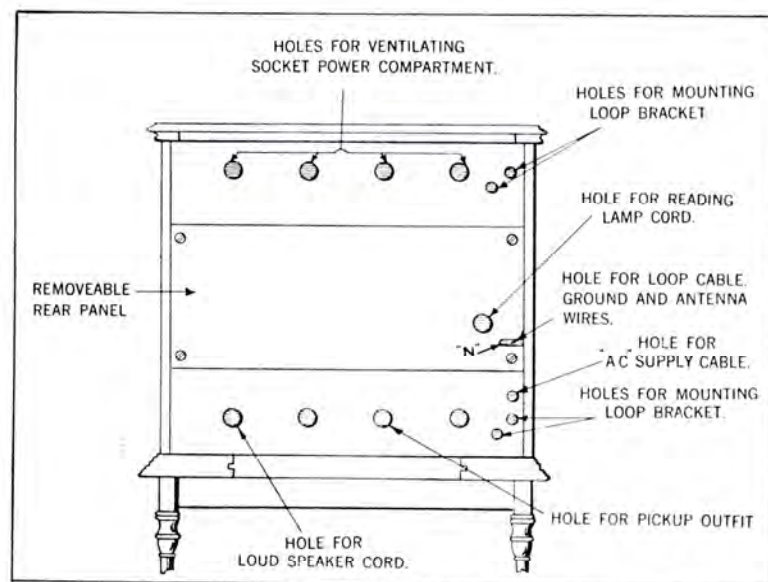

Fig. 12—Rear View of Cabinet of No. 734 Receiver
7. Replace the removable rear panel. As you do so, bring Antenna and Ground wires or Loop Cable and Ground Wire into Cabinet through slot "N" in removable panel. (Fig. 12.) Connect to binding posts on chassis. If Loop is used,
10. Push chassis back into its compartment in Cabinet. Connect A. C. supply cord attachment plug to house lighting socket or outlet. Insert Loud Speaker plug and Phonograph Pick-up Outfit plug (if used) in respective jacks at rear of chassis (Fig. 12.) Turn On-Off Switch to "ON."
14. A convenience outlet is provided in the rear of the cabinet (Fig. 12), in which a Reading Lamp or Bridge Lamp may be plugged, if desired. The lamp will then turn on or off with the Receiver. This use of a lamp is valuable as an additional pilot light or visual indicator that the set is or is not operating, and is convenient when receiving evening programs.